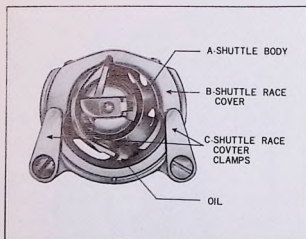

Fig. 38
a drop of oil in spot indicated by arrow in Fig. 38. This should be done before you begin sewing each time you use your machine.
A JAMMED SHUTTLE—See Fig. 38
1. Turn the balance wheel until the needle reaches its highest position. The shuttle will assume the position illustrated in Fig. 38.
3. Press down on the two spring loaded shuttle race cover clamps, (C), and remove the shuttle race cover, (B), and shuttle body, (A).